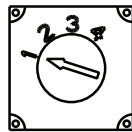

Figure 4: Regulator Voltage Selection Switch
1. Before installing regulator, verify appropriate switch setting for your application and change if necessary. See Figure 4 and Table 1 for fixed voltage set point options when regulator is used without battery sensor/harness. See Table 2 for battery chemistry-based charge profiles when regulator is used with compatible CEN battery sensor/harness. **Contact battery manufacturer or vehicle OEM for charging set point recommendations for your environment or application if necessary.**